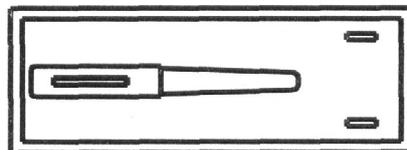

Fig.8
3.4.1.3. Using the screwdriver, which is located under the battery cover, see Fig.8, turn the Metal/Voltage detection trimmer, refer to Fig.9, as follows: